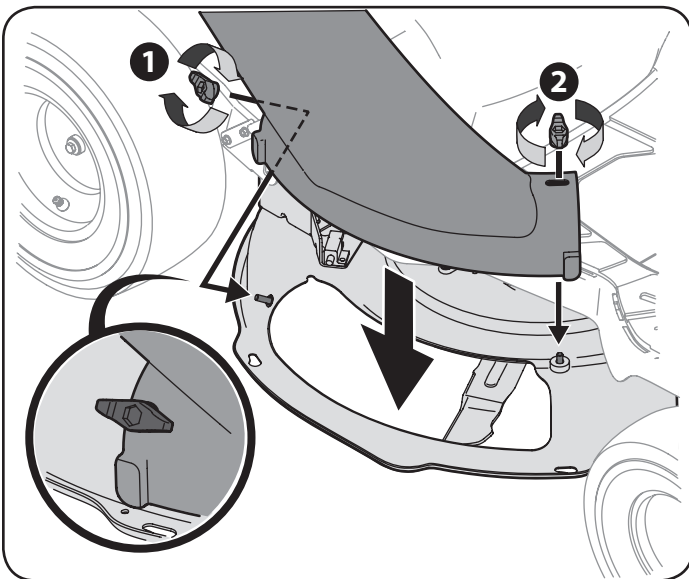

Figure 9
9. Mount the bagger chute tube to the deck of the tractor by lowering the chute tube over the mounting bolts in the mowing deck, as shown in Figure 9.
10. Secure the rear mounting bolt with a wing knob (1), then the front mounting bolt with another wing knob (2) as shown in Figure 9.